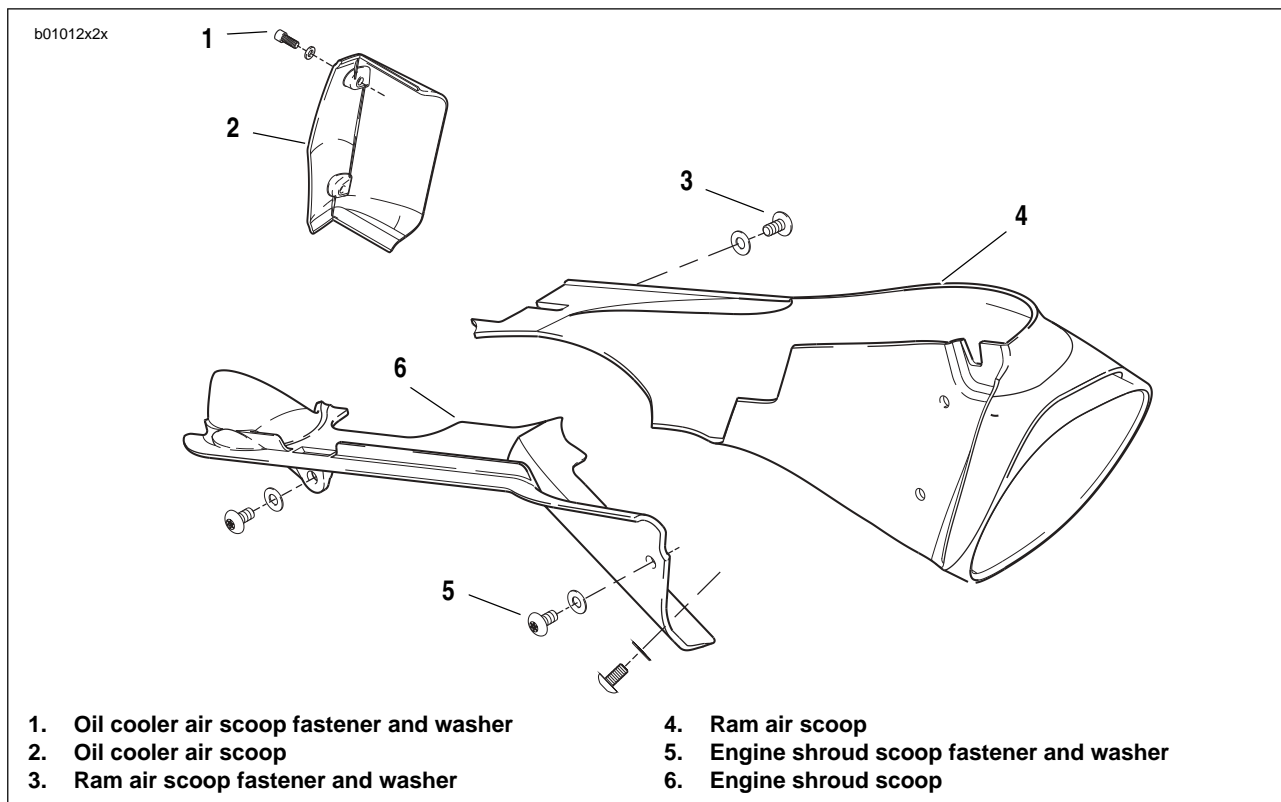

Figure 2-108. RAM Air Scoop, Engine Shroud, Oil Cooler
1. See Figure 2-108. On left side of bike, locate ram air scoop (4).
2. Remove three ram air scoop fasteners (3).
3. Remove ram air scoop (4).
1. See Figure 2-108. Position ram air scoop (4).
2. Install ram air scoop (4) with three fasteners (3). Tighten to 12-36 **in-lbs** (1-4 Nm).
1. See Figure 2-108. On right side of bike, locate engine shroud air scoop (6).
2. Remove three engine shroud air scoop fasteners (5).
3. Remove engine shroud air scoop (6).
1. See Figure 2-108. Position engine shroud air scoop (6).
2. Install engine shroud air scoop (6) with three fasteners (5). Tighten to 12-36 **in-lbs** (1-4 Nm).
1. See Figure 2-108. On left side of bike, locate oil cooler air scoop (2).
2. Remove two oil cooler air scoop fasteners (1).
3. Remove oil cooler air scoop (2).
1. See Figure 2-108. Position oil cooler air scoop (2).
2. Install oil cooler air scoop (2) using LOCTITE 272 tightening fasteners (1) to 120-144 **in-lbs** (14-16 Nm).